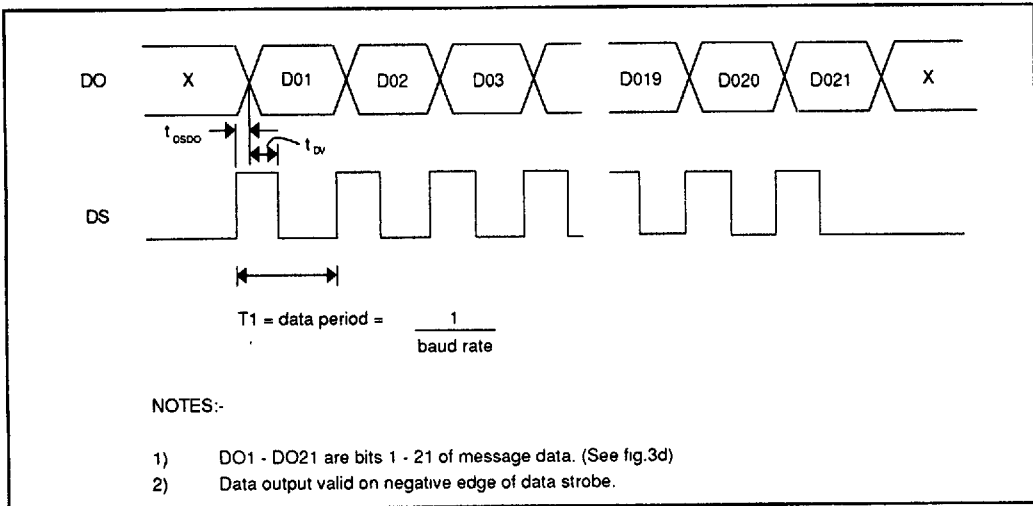

Fig 5 Data Output Timing
This circuit receives the incoming serial data and performs 2 bit CRC error correction according to the POCsAG standard on all incoming data. Together with the timing logic and pattern detector, this circuit maintains word sync and outputs corrected message data clocked on a positive edge of data strobe (DS) as shown in figure 5. If more than two errors are detected, no attempt is made at corrections and the data is outputted uncorrected with no indication of error.